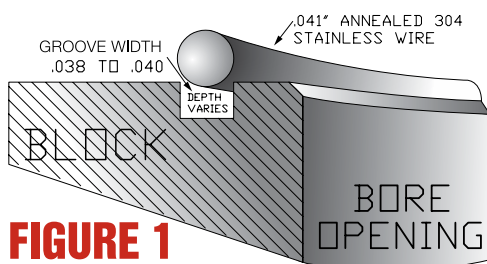

FIGURE 1
STEP 4 - Recommended o-ring protrusion is not more than 25% of gasket thickness (SEE FIGURE 1 BELOW). Example: Gasket thickness .043", o-ring protrusion height is .008" to .010". This standard works with all thicknesses that are .050" and less. Gaskets that are thicker than .050" do not require o-ring height more than .012".